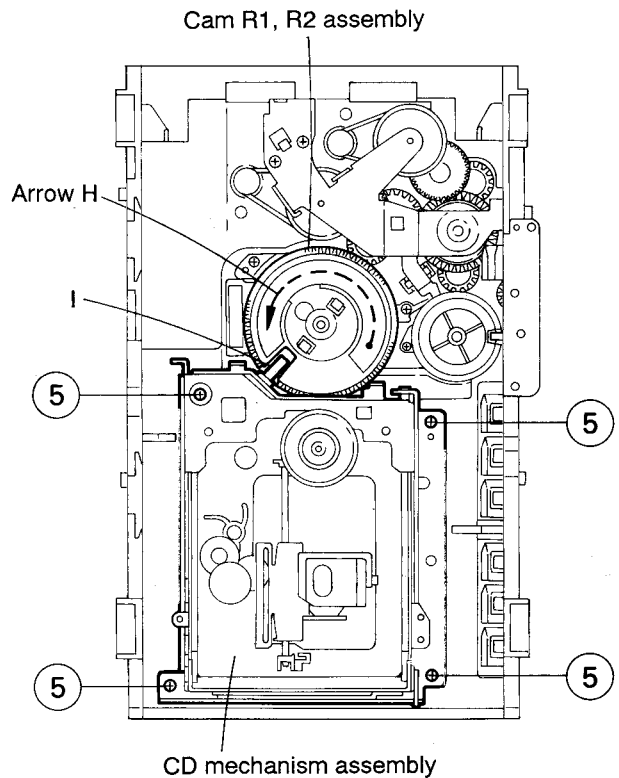

Fig. 5-25
Removing the CD mechanism assembly (See Fig. 5-25)
1. While turning the cams R1 and R2 assembly in the arrow direction (I), align the shaft (J) of the CD mechanism assembly to the position shown in Fig. 5-25.
2. Remove the four screws (5) retaining the CD mechanism assembly (See Fig. 5-25).